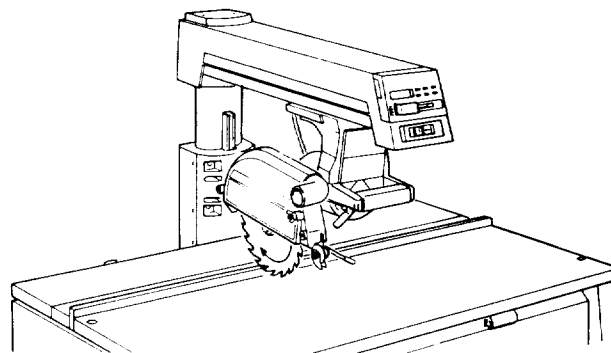

Fig. 124
2. Place the *guard* over the *blade*. You will feel the *guard* fall into place when the ridge on the inside of the *guard* slides into the slot on the *motor*. (Figure 124)
3. Make sure that the lower edge of the *guard* is parallel to the table. (Figure 124 - above)